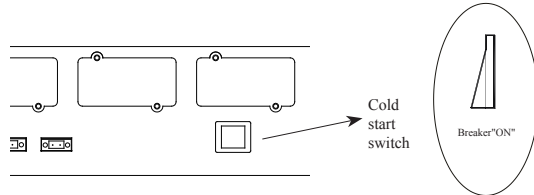

Fig. 7-4
5) If the system is started up with no utility power, the “Cold Start Switch” (Fig. 7-4) on the communication interface needs repeatedly powering on and off. After the system is connected by cold start for about 1min, it automatically enters the Home.